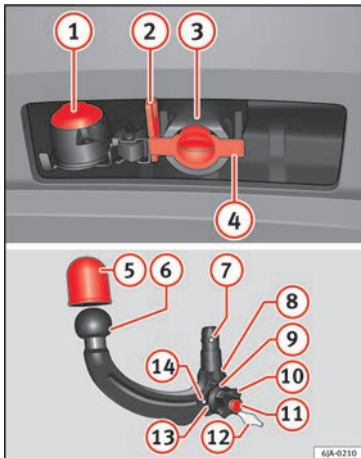

Fig. 99 Towing bracket device support for hitching/ball-headed bar.
Key to »» **Fig. 99**
- Remove the cap from the clamping bush **(4)** **»» Fig. 99** by pulling downwards.
- Place the cover over the clamping bush **(4)** **»» Fig. 99.**